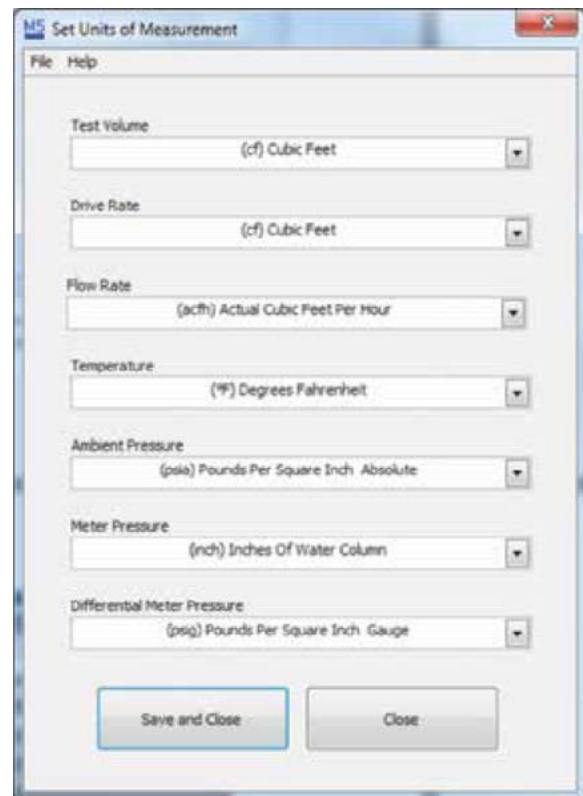

Figure 19: Changed Drop Down Selection
7. The selection should be reflected as shown in Figure 19.